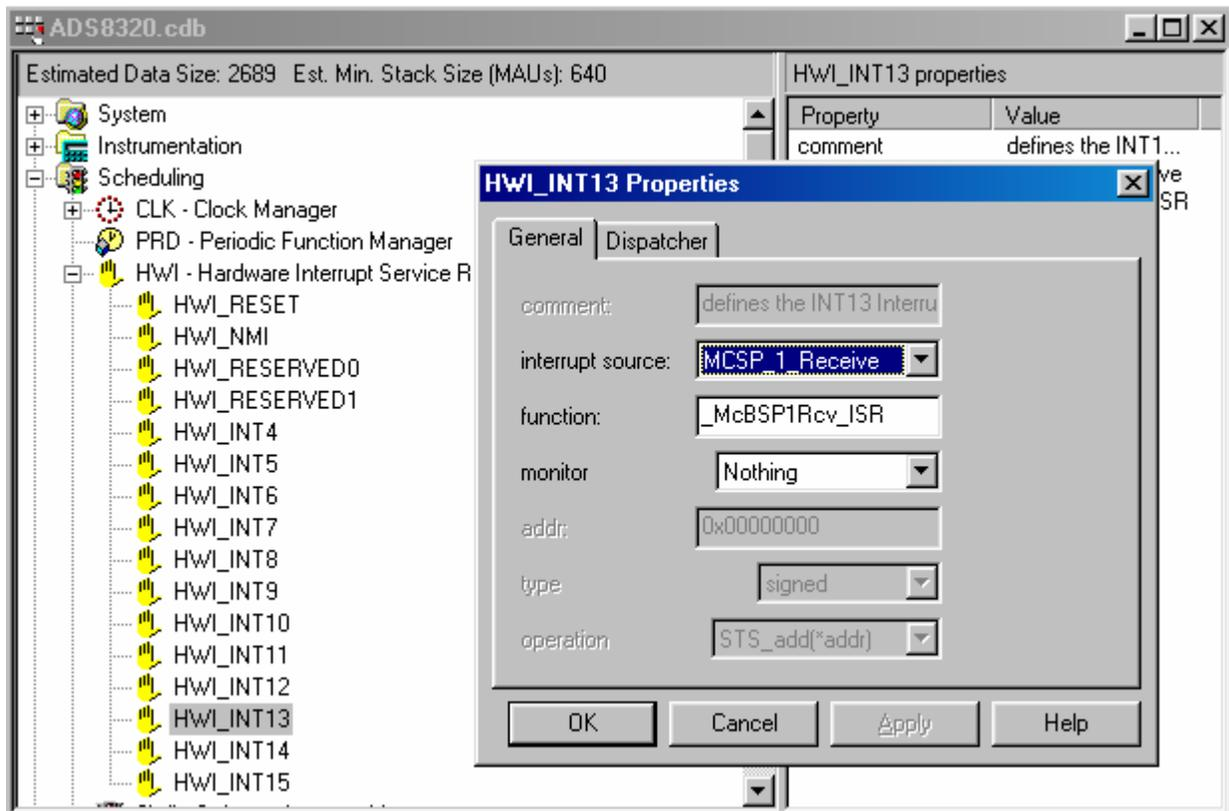

**Figure 8. McBSP1 Configuration Object Mapping**
- After the McBSP configuration object is set, the object then must be mapped into the Mcbsp\_Port1. To do this, right-click on the Mcbsp\_Port1 and select the options shown in Figure 8.